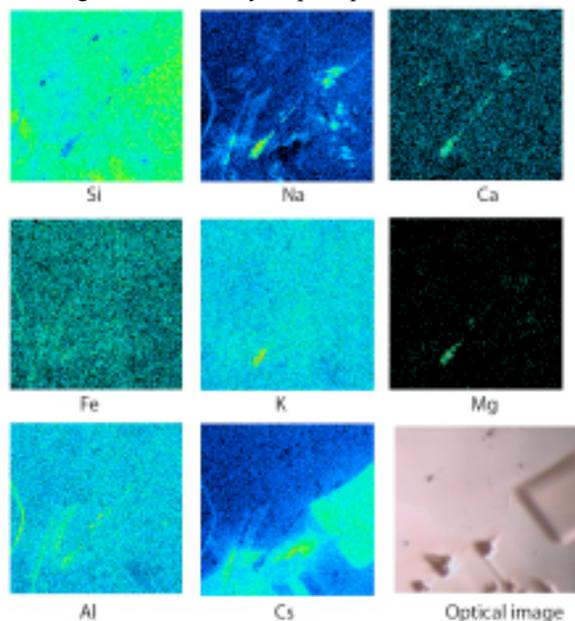

Figure 1. 500x500 μm ion image of 60286 flight sample taken in 2011 after surface sputtering (100 nA pulsed Ar beam for 3 sec). 100 sec analysis time.
**Sample 60286.** This sample underwent multiple cleaning steps and was TRXRF-clean at the time of first TOF-SIMS imaging. Figure 1 is an ion images of the region where previous conventional SIMS analyses were done. Note the very high Cs signal in the SIMS